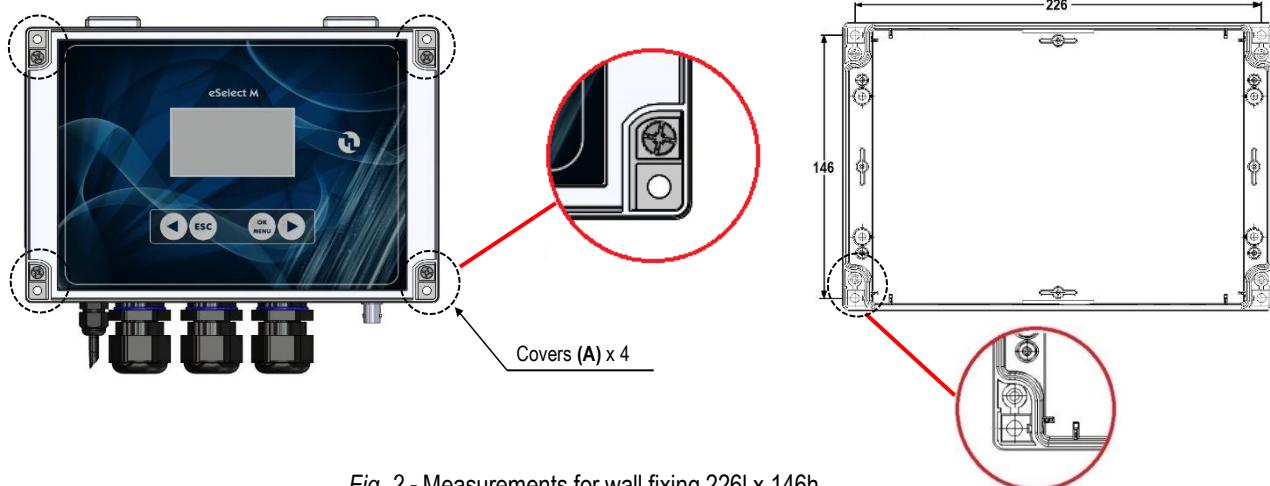

Fig. 2 - Measurements for wall fixing 226l x 146h
Comply with standards in force in the different countries regarding electrical installation (Fig. 2). If the power cord does not have a plug, the device must be connected to the mains by means of an omnipolar disconnecting switch with at least 3 mm between the contacts. All the power supply circuits must be interrupted before accessing the connection devices.
The wall-mounting plugs are supplied with the device. Always use a plug suitable to the available support. The layout of the holes to be drilled on the support is displayed in Figure 2.
To access the 4 installation holes, remove the covers on the installation points (A) found on each corner of the instrument, use a Phillips screwdriver to loosen the four screws underneath the covers, then open the front panel (see Fig.2).